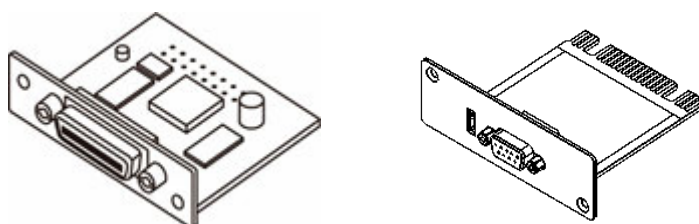

Figure 1-3 GPIB/CAN Interface
1. Figure 1-3 shows the optional GPIB/CAN interface of model 63815R-350-105 (item 9). A cover plate is provided if this option is not ordered.